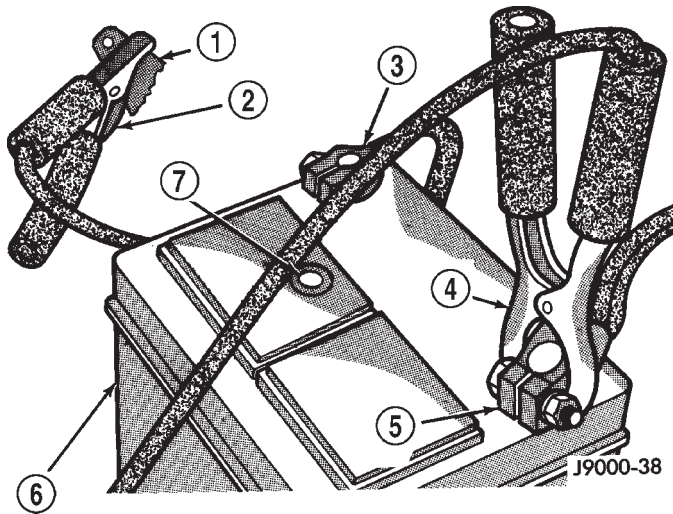

Fig. 1 Jumper Cable Clamp Connections
(2) When using another vehicle as a booster source, park the booster vehicle within cable reach. Turn off all accessories, set the parking brake, place the automatic transmission in PARK or the manual transmission in NEUTRAL and turn the ignition OFF.
(3) On disabled vehicle, place gear selector in park or neutral and set park brake. Turn off all accessories.
(4) Connect jumper cables to booster battery. RED clamp to positive terminal (+). BLACK clamp to negative terminal (-). DO NOT allow clamps at opposite end of cables to touch, electrical arc will result. Review all warnings in this procedure.
(5) On disabled vehicle, connect RED jumper cable clamp to positive (+) terminal. Connect BLACK jumper cable clamp to engine ground as close to the ground cable attaching point as possible (Fig. 1).
(6) Start the engine in the vehicle which has the booster battery, let the engine idle a few minutes, then start the engine in the vehicle with the discharged battery.